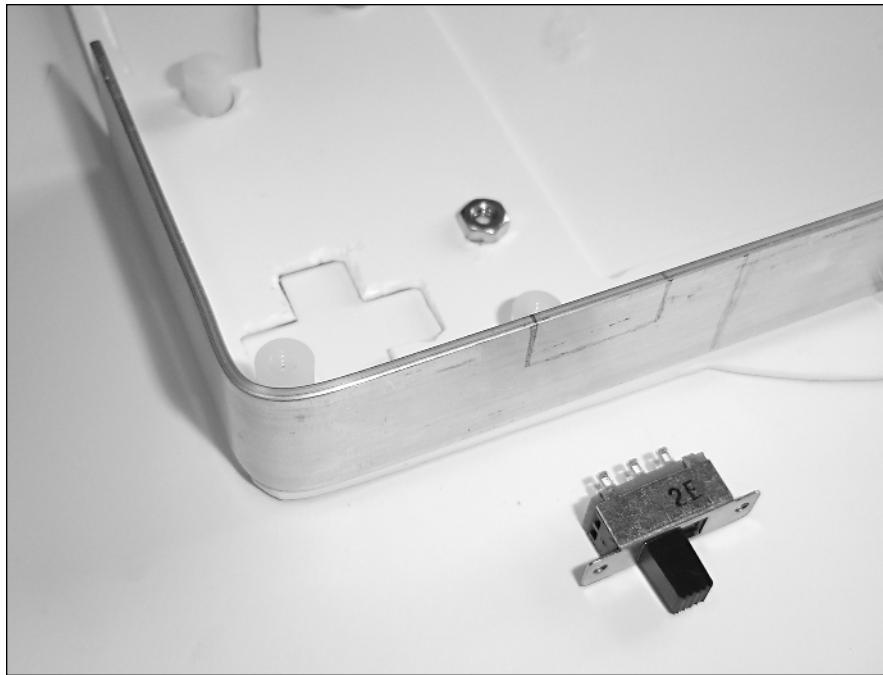

FIGURE 10-6: The first bend in the aluminum.
2. Start by making a 90-degree bend around a standard pencil with 2-1/2" of aluminum remaining after the bend, as shown in Figure 10-6.
3. The bend should match the corner of the front plate near the joypad. Pencil in a 3/8"-high by 5/8"-wide rectangle on the metal, as shown in the Figure 10-6. This will be where the power switch goes. Cut down the two vertical slits with a hacksaw, and then grab the resulting tab with large pliers, and bend it out. Check that the power switch fits the hole; we'll be installing it later on.